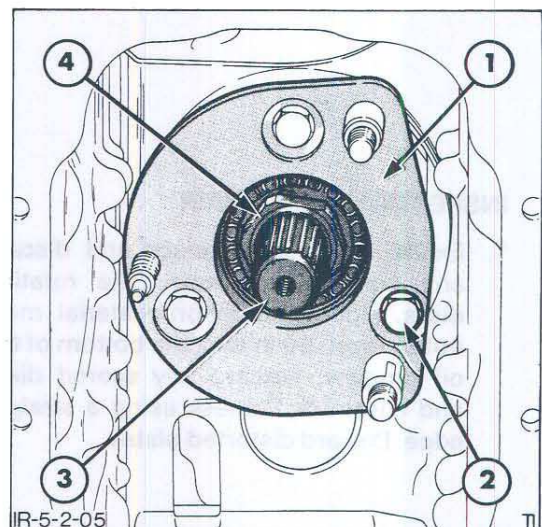

Figure 5
7. Remove the rear reaction plate retainer bolts, Figure 5, and separate the rear reaction plate from the centre housing.